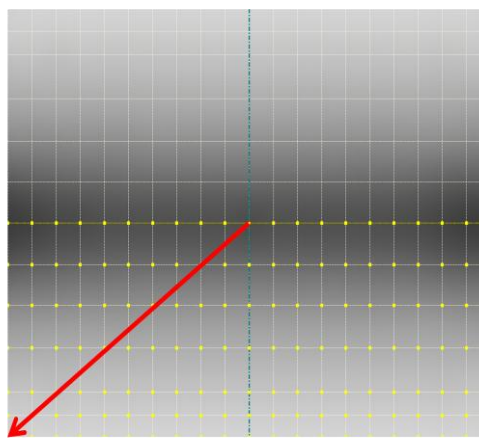

Fig 5: select more points
3. Press and hold left mouse bottom, drag from the upper right to lower left (fig 5).